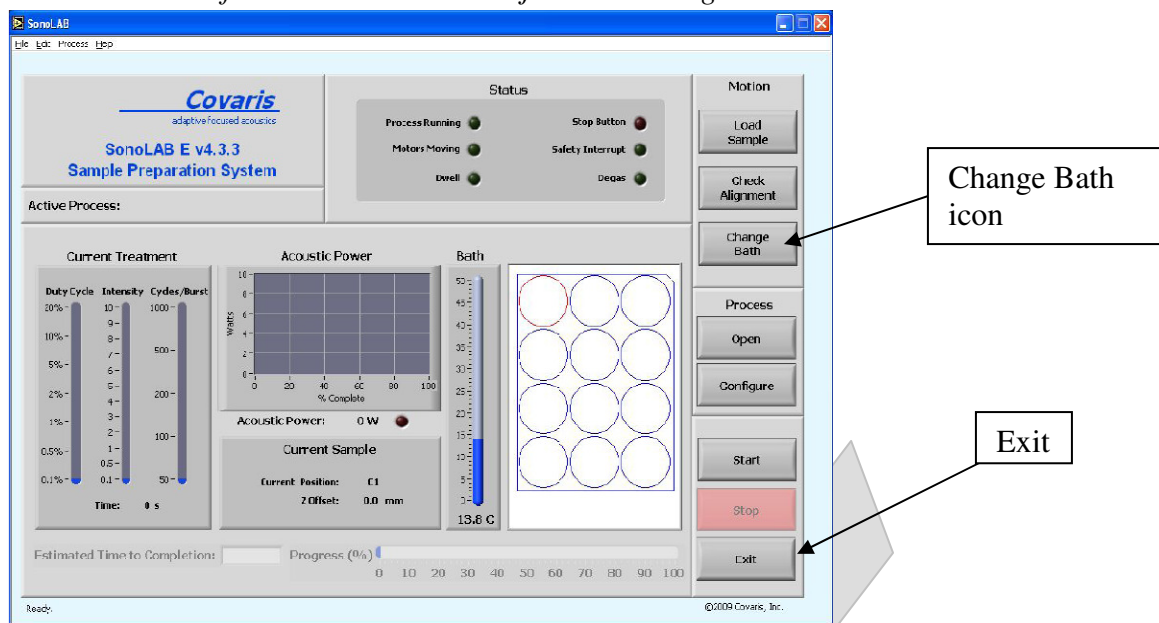

Figure 13: Shutdown of Covaris E-series
4.4. Open the door and with extreme care, remove most of the water from the transducer “bowl” with a pipette. Then using soft lint-free cloth/paper/sponge remove any residual water. Keeping the transducer dry between applications will help prevent corrosion and ensures optimal system performance. Close the door. See Figure 13.